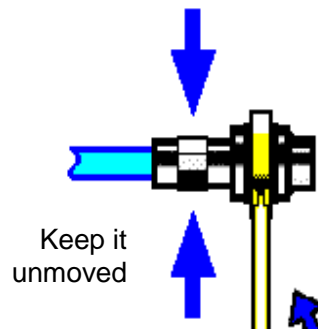

Fig. 2.5 Completion of Final Connection with a Torque Wrench
**Step 3.** As shown in Fig. 2.5, use a torque wrench to tighten the connectors and finish the connection; the torque wrench shall not exceed the starting break point and an auxiliary wrench can be used to prevent the connector rotating.